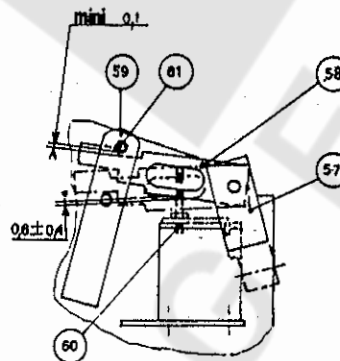

Fig. 23
Holding the striking pin (29) as illustrated in Fig. 23, apply rated voltage to the holding coil, placing release bar in unlatched position. Remove voltage and allow release bar to slowly withdraw observing
NOTE: In order to prevent blocking of the release bar from being reset when breaker opens, it is necessary to return release bar to its latched position by means of the hook illustrated in Fig. 23.
C. **Undervoltage lockout (Fig. 23).** When the undervoltage release is provided with lockout to prevent breaker reclosing upon voltage restoration, the